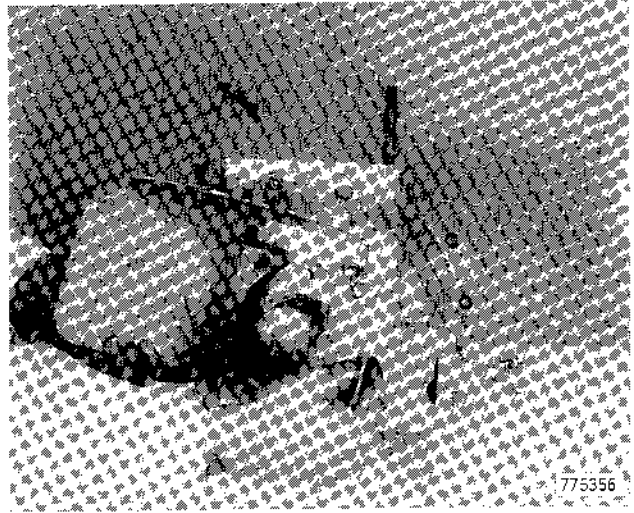

Figure 93
43. Install PTO guard, Figure 93.